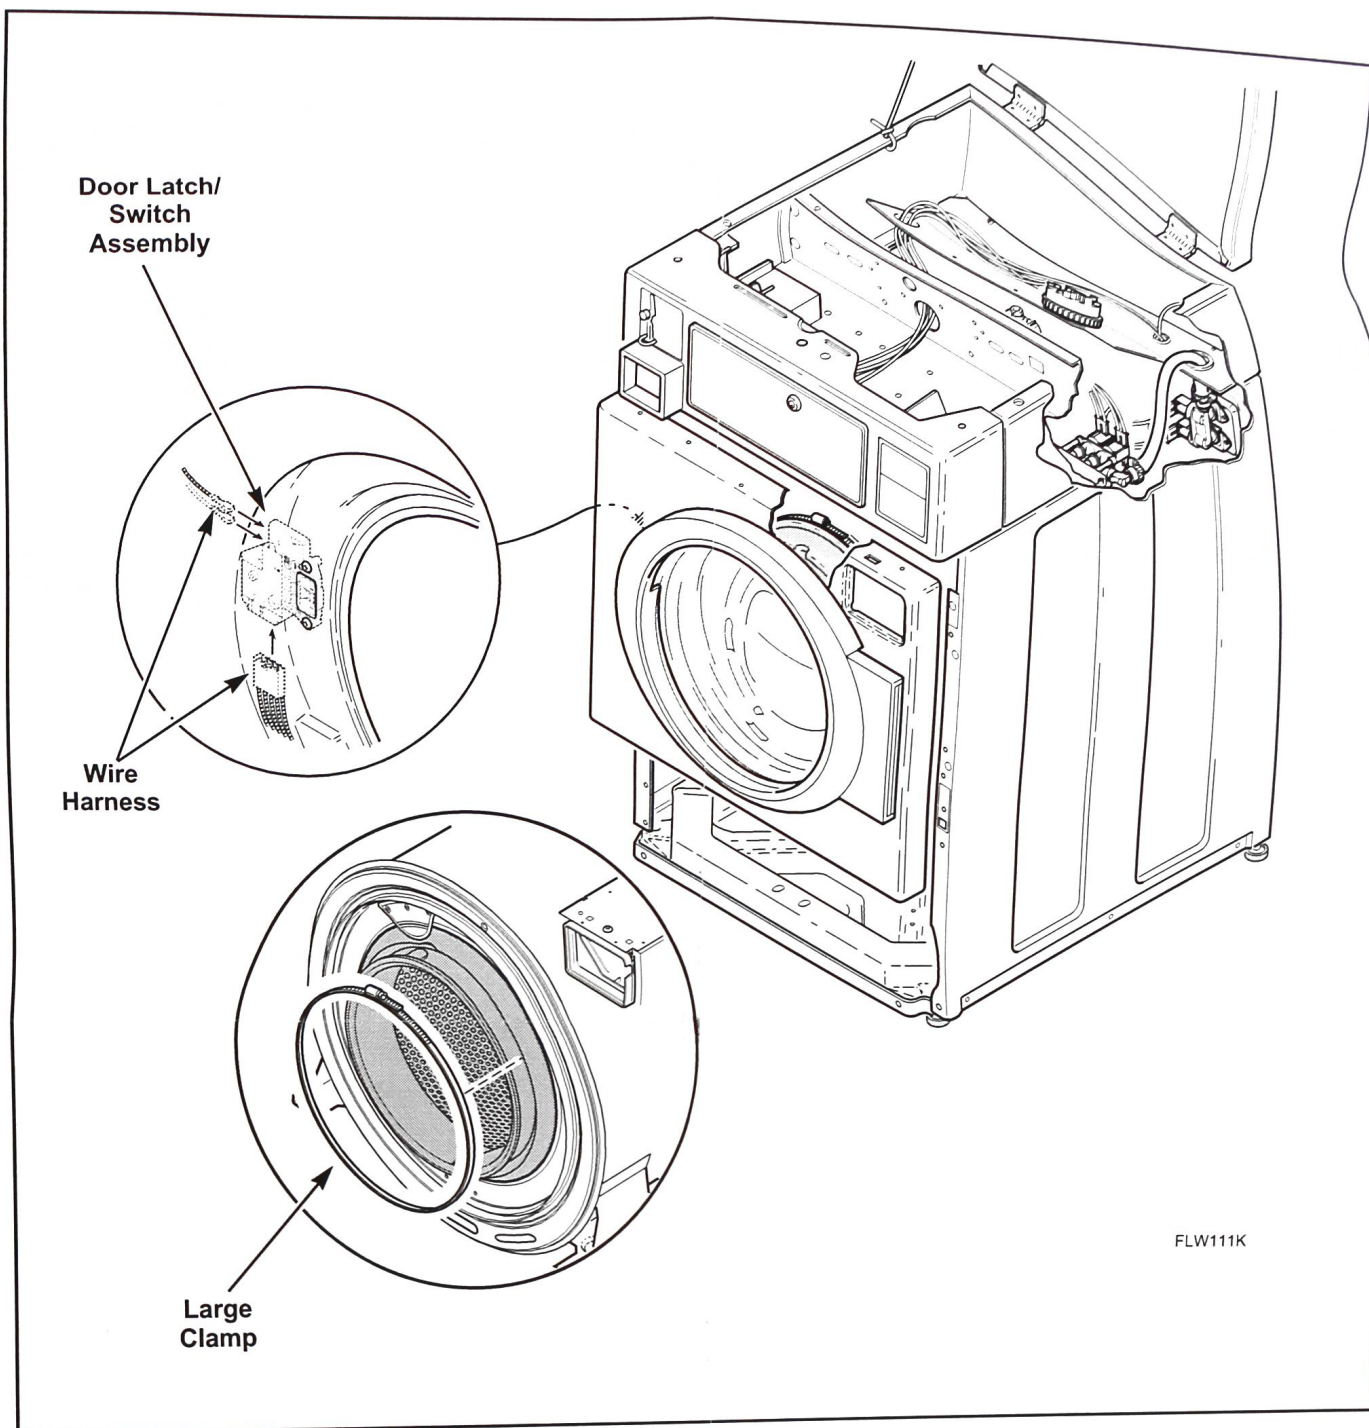

Figure 2
14. Unplug wire harness from door latch/switch assembly. Refer to *Figure 2*.
16. Loosen large clamp holding door seal to front of outer tub. Refer to *Figure 2*.
5. Reconnect wire harness to door latch/switch assembly. Refer to *Figure 2*. Refer to wiring diagram when reconnecting door lock wires.